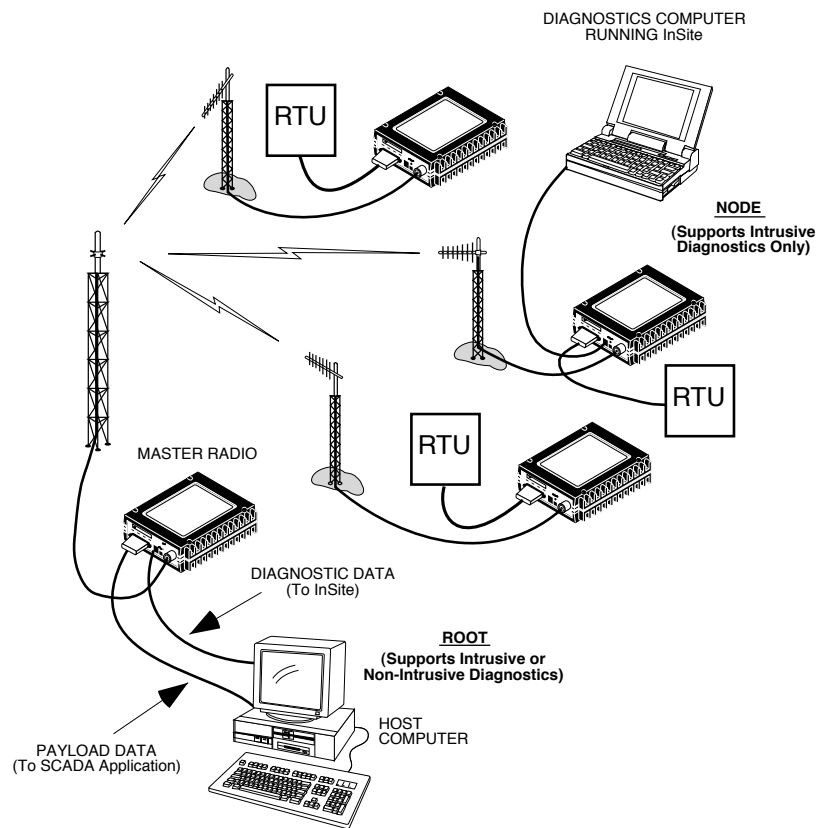

Figure 12. Network-Wide Remote Diagnostics Setup
Figure 12 shows an example of a setup for performing network-wide remote diagnostics from both a Root (master station) location, and a Node (remote station) location.
6. Connect a PC on which MDS InSite software is installed to the root radio, or to one of the nodes, at the radio’s diagnostic port. (This PC may be the PC being used to collect payload data, as shown in Figure 12.)